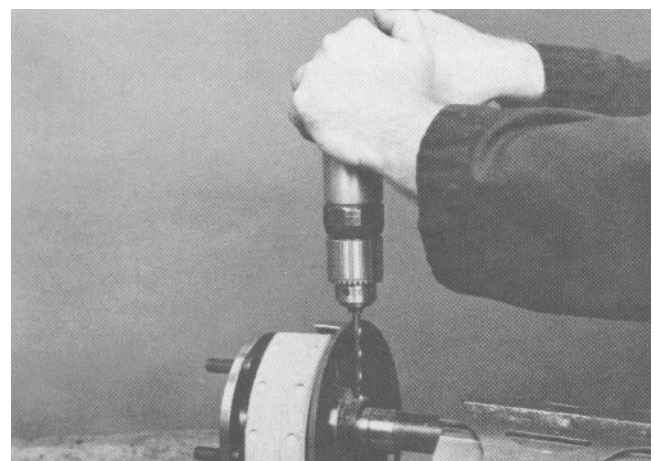

Figure 10
6. Drill a 1/4 inch hole (approximate) into the outside of the retainer ring to a depth of about 3/4 the thickness of the ring (Fig. 10).